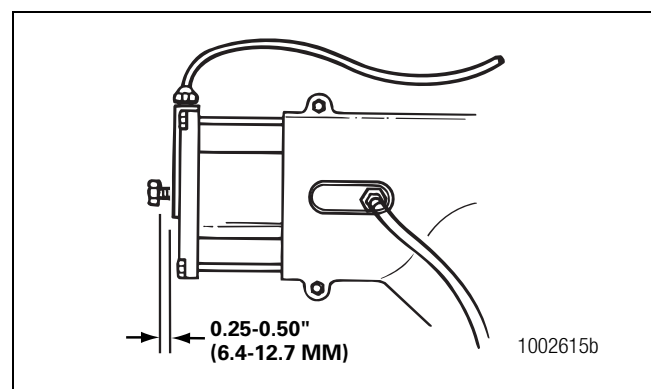

Figure 11.6
- B. Turn the capscrew to the right until the head is approximately 0.25-0.50-inch (6.4-12.7 mm) from the cylinder cover. The capscrew is now in the service position and the main differential is locked or engaged. Figure 11.6. When you turn the capscrew, you will feel a small amount of resistance. This is normal.